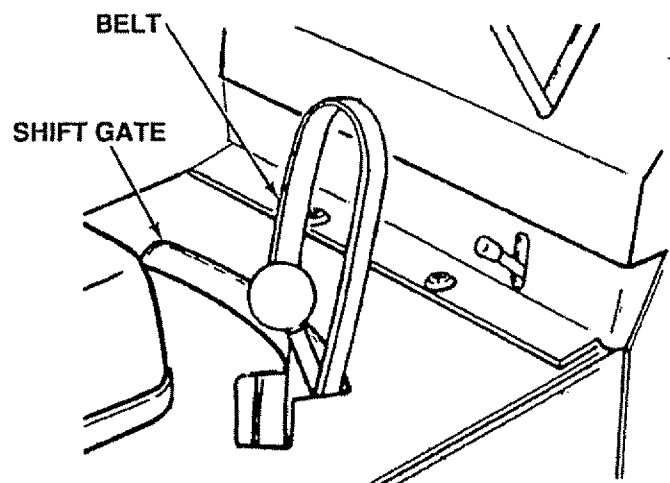

FIGURE 29
- Pull belt out through shift gate to remove from tractor (Fig. 29).